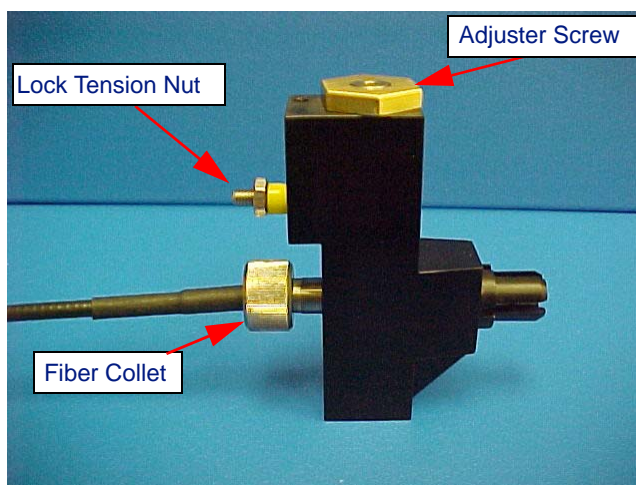

Figure A-4: Optical fiber receiver and positioner for the HELEOS.
3. Unscrew the fiber collet (see Figure A-4).